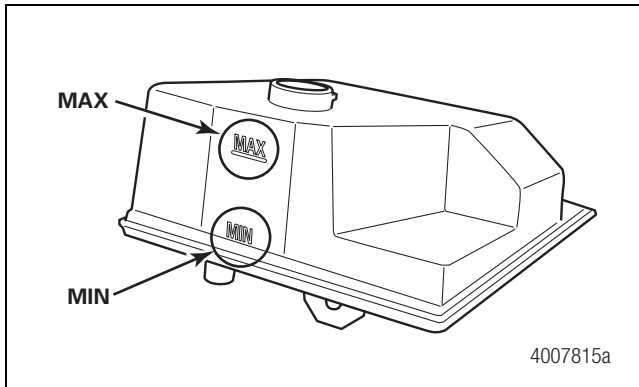

Figure 5.3
13. With the system completely charged, the brake fluid level will be between the MIN and MAX marks on the master cylinder reservoir. Figure 5.3.